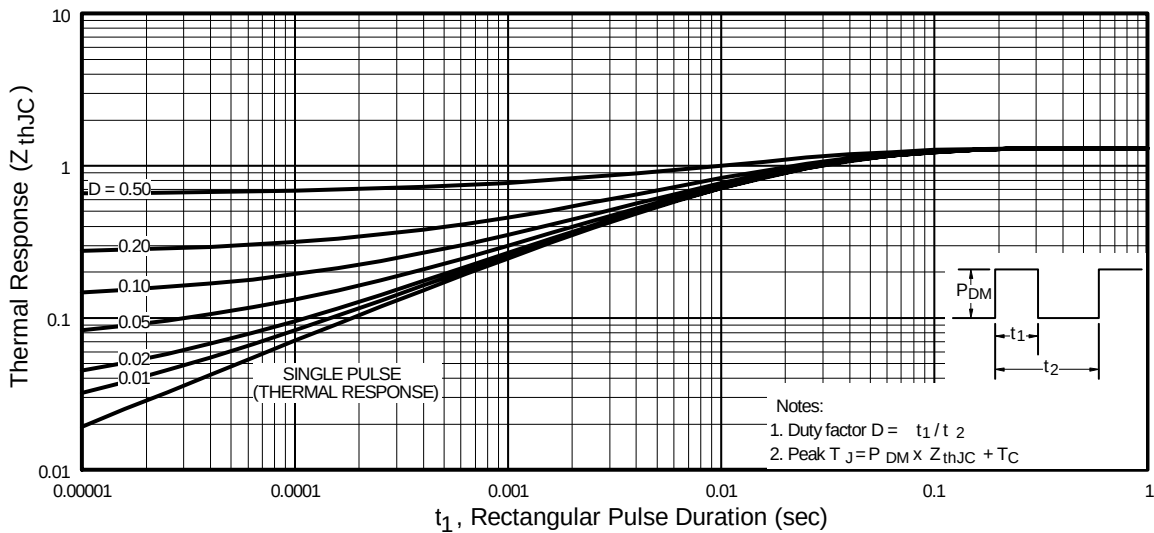

Fig 11. Maximum Effective Transient Thermal Impedance, Junction-to-Case
① Repetitive rating; pulse width limited by max. junction temperature. (See fig. 11)
② Starting $T_J = 25^\circ\text{C}$, $L = 3.7mH$